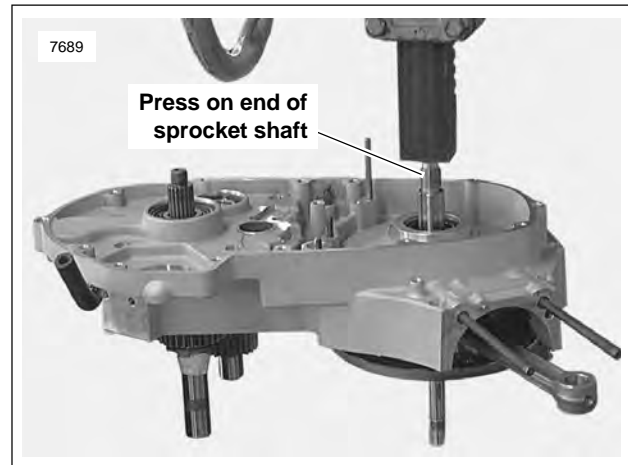

Figure 3-116. Pressing Flywheel from Crankcase
9. See Figure 3-116. Mount the left crankcase half and flywheel assembly on a press table, supporting crankcase on parallel bars. Press on end of sprocket shaft with arbor press until flywheel assembly is free from crankcase half. Do not drive flywheel assembly from crankcase half as flywheels may be knocked out of alignment.